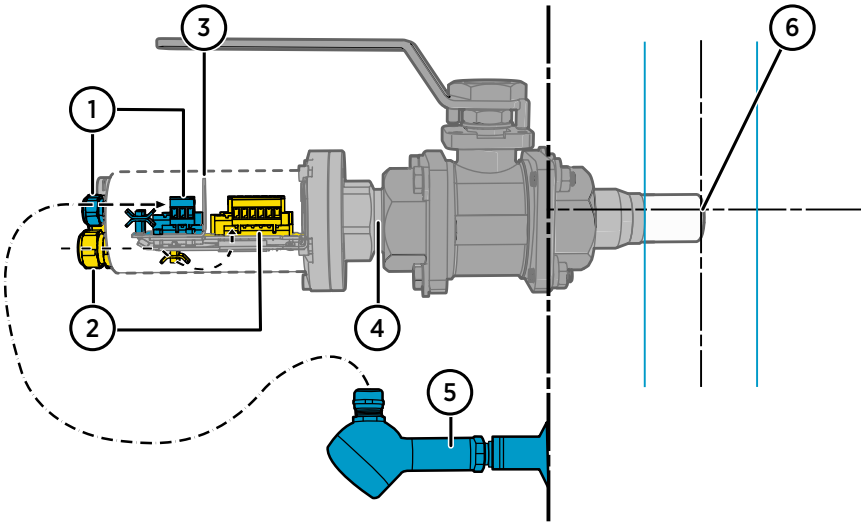
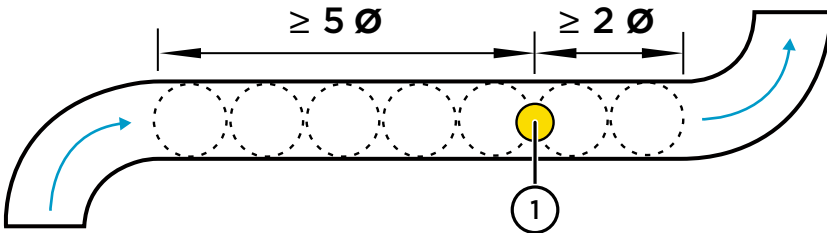

Figure 8 MGP260 installation example with wiring routes and recommended orientation and depth
Figure 11 Recommended MGP260 installation position on pipeline
Figure 8 \(page 22\) shows an example MGP260 ball valve installation. The figure highlights the correct wiring routes and shows the recommended installation depth and orientation.
For an example of connecting a pressure input instrument, see Figure 8 \(page 22\).
Figure 11 (page 24) shows the recommended installation position for MGP260. Install the probe in a straight run of pipeline, ≥ 5 pipe diameters downstream of the closest bend or other feature affecting gas flow, and ≥ 2 pipe diameters upstream to the next bend or similar feature. For best results, use the orientation and installation depth shown in Figure 8 (page 22).
- Pressure measurement received from an external pressure measurement instrument through the Ex ia (4 – 20 mA) input terminals on the MGP260 component board. This is the recommended option: for an example, see Figure 8 \(page 22\). The wiring of the external pressure instrument input is shown in Figure 13 \(page 30\).